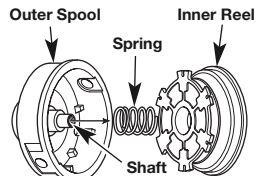

Fig. 14
- Remove the inner reel from the outer spool (Fig. 14).
- Remove the spring from the inner reel (Fig. 14).